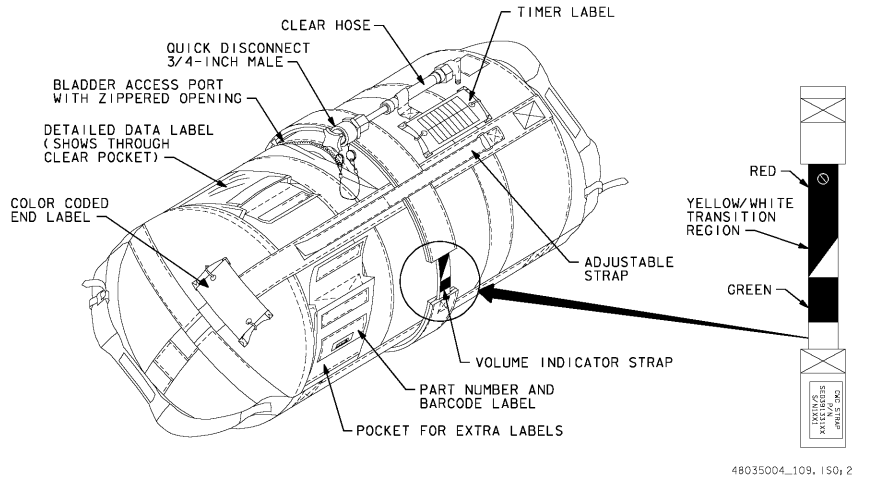

Figure 5-3.- Quantity measuring strap and CWC details.
- If NO COMM, terminate fill if quantity indicator shows yellow/white transition (see fig 5-3)